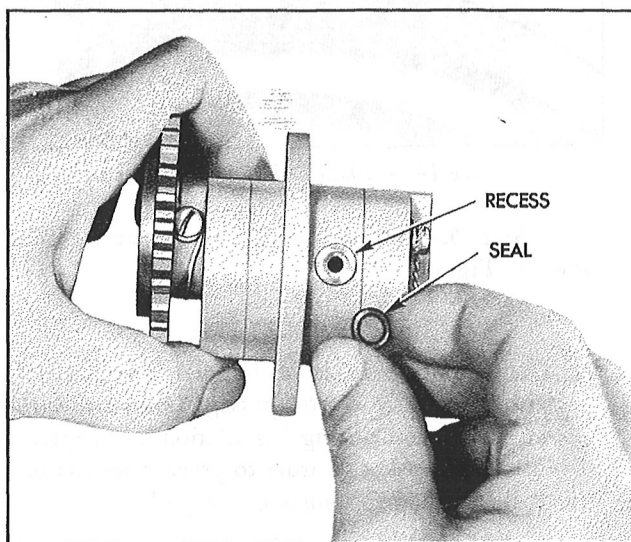

Figure 153—Installation of Oil Pump Seal
*Step 15.*—Place the oil pump seal in the pressure outlet recess provided for it, as shown in Figure 153.